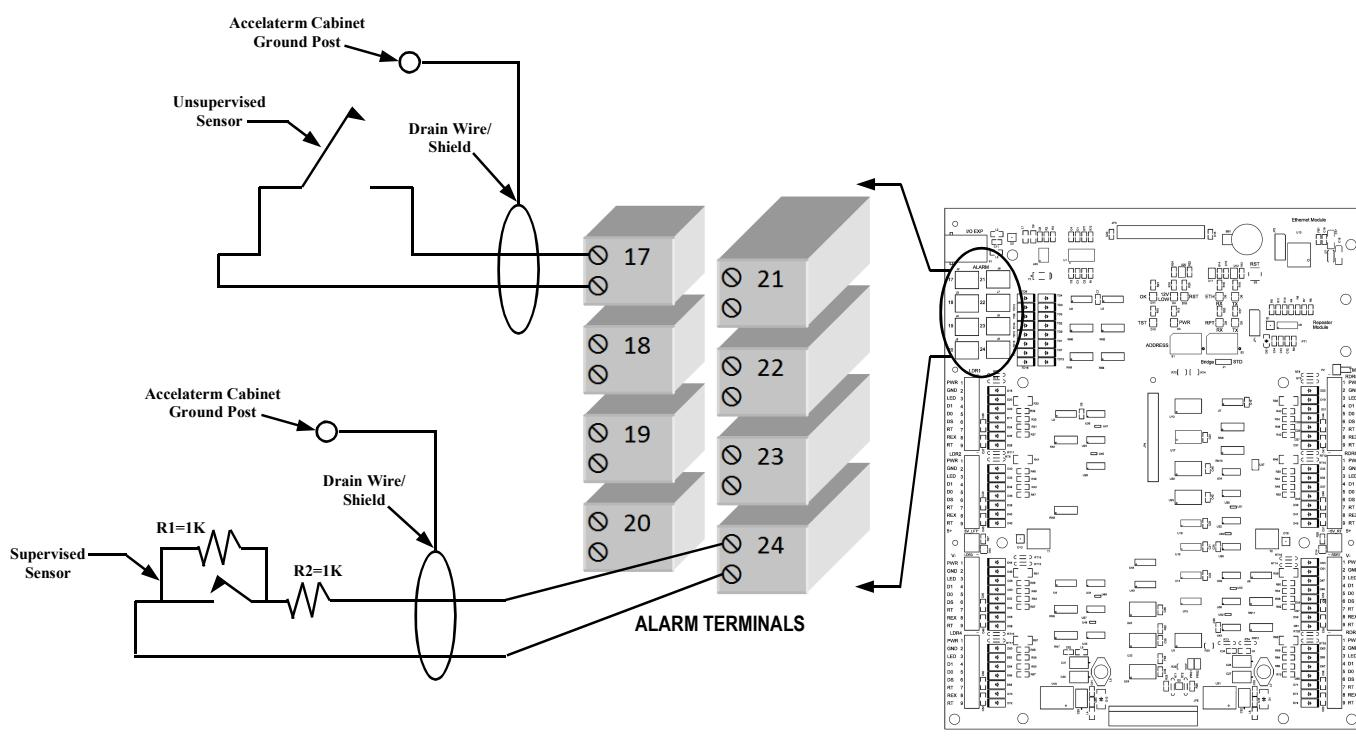

Figure 15 - ALARM TERMINALS - Unsupervised and Supervised Alarm Connections
Eight accessory supervised alarm inputs are located on the Accessory ALARM terminal strip located on the upper left corner of the Accelaterm circuit board (see Figure 15). These alarm inputs may be used for dry contact type inputs (unsupervised) or supervised alarms.
2. Install R1 in parallel with the alarm contacts (see Figure 15).